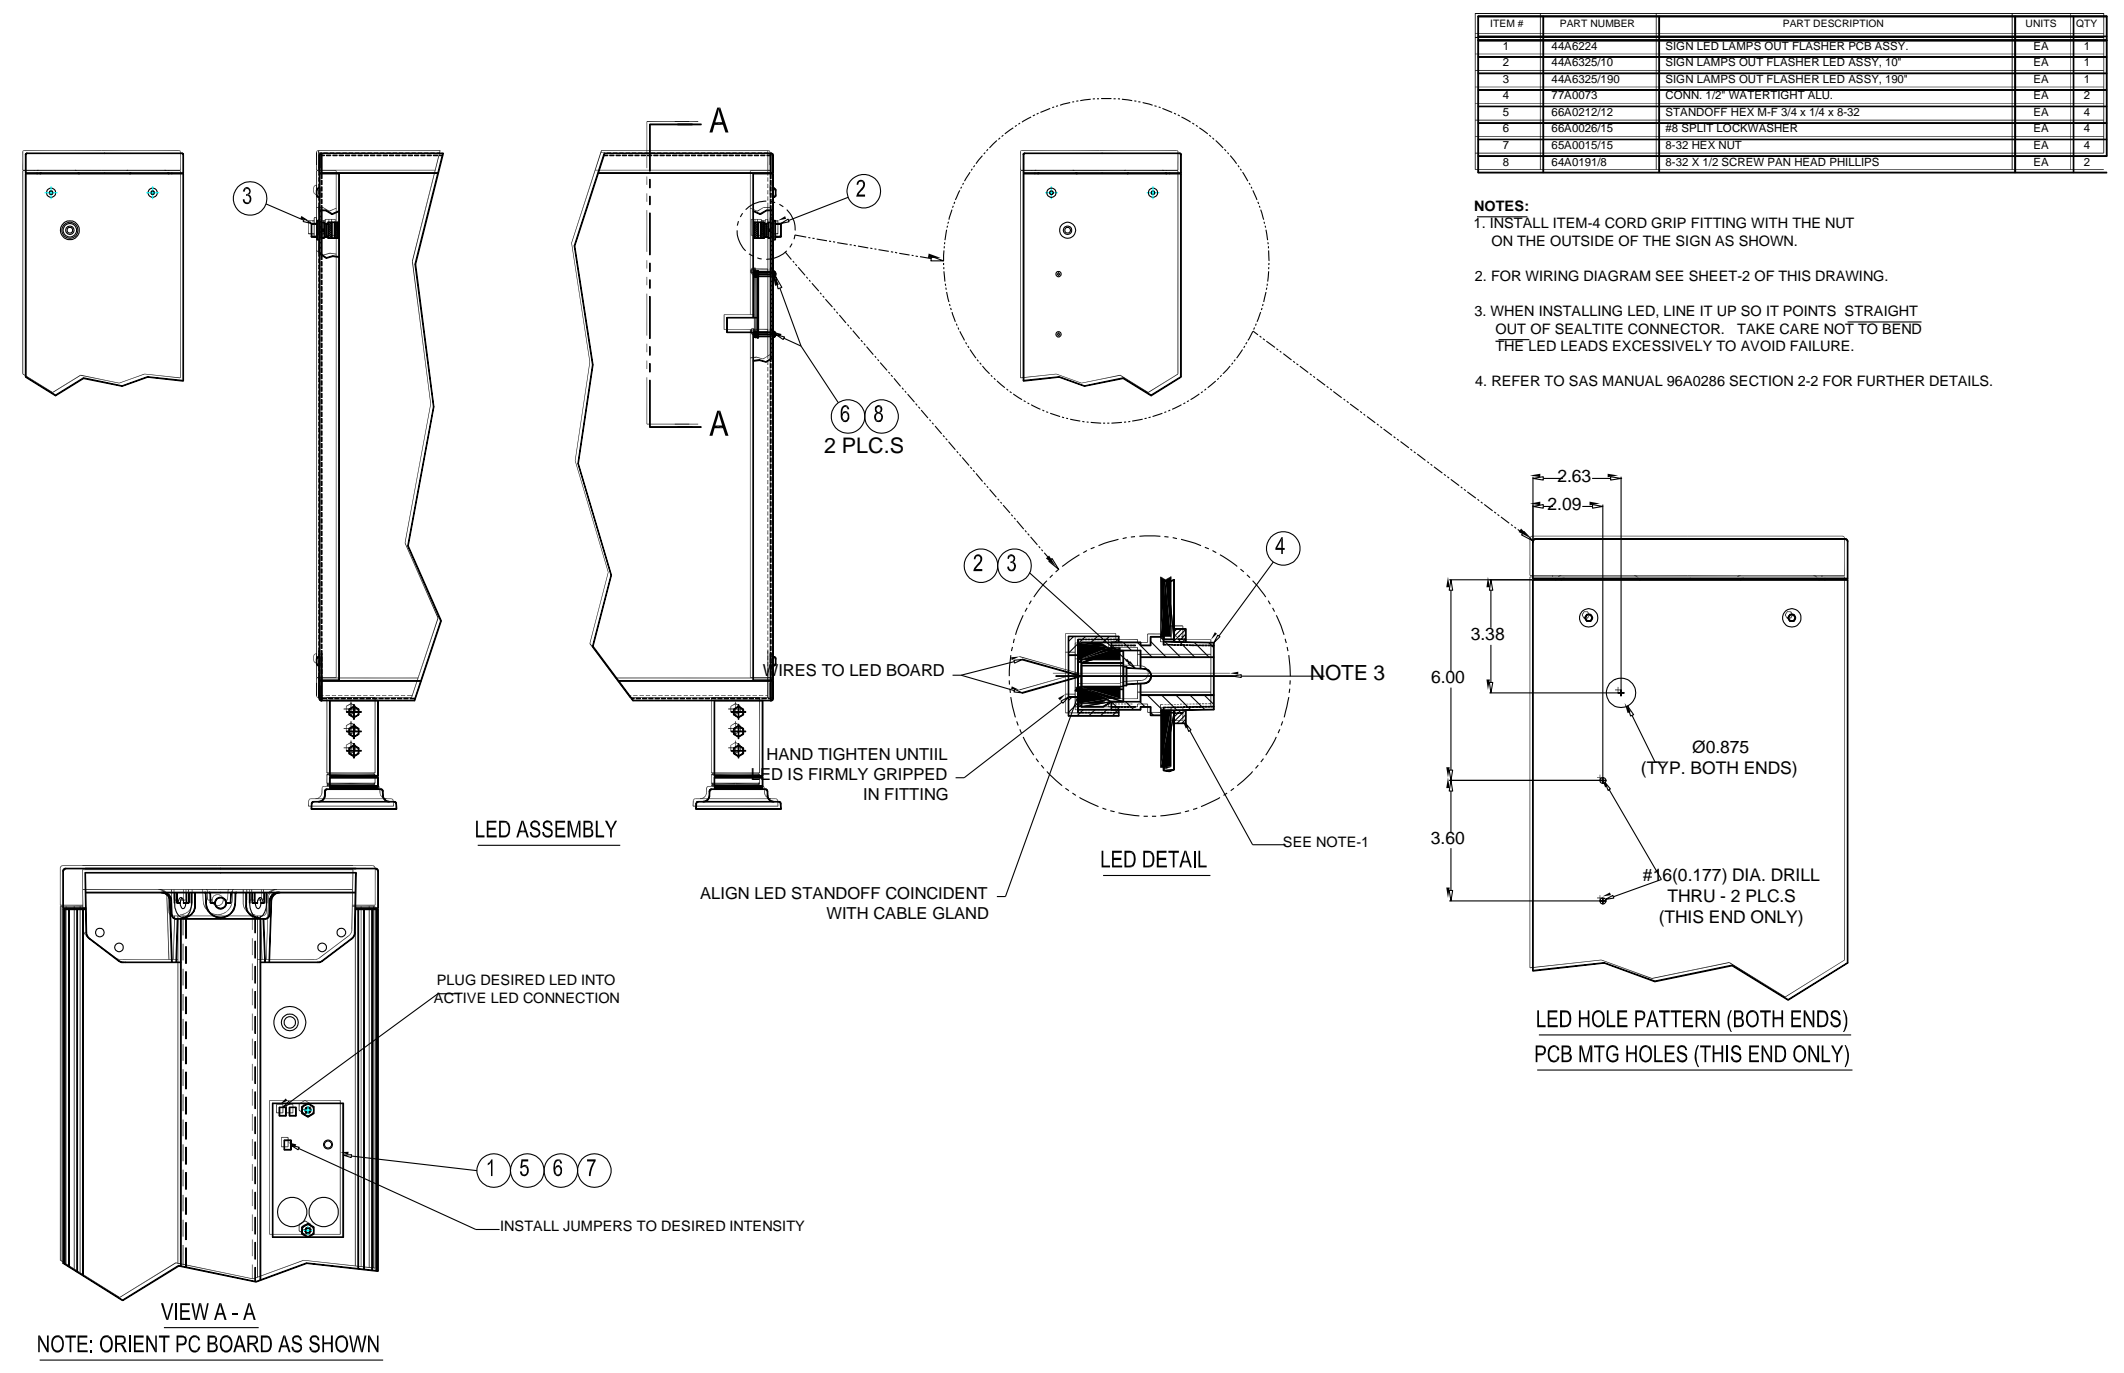

Figure 1 Lamps- Out Assembly Drilling Template and component Location Diagram
1. Drill holes for the indicator and the flasher PCB, as shown on the Flasher Kit and wiring diagram, at the end of the sign that has been selected. See Figure 1.
2. After installing the first lamps-out indicator alter the other end of the sign to install the second indicator light assembly. If it has been decided to install both indicators. See Figure 1.